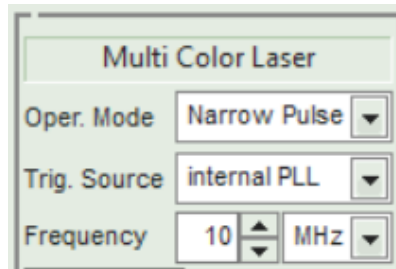

Figure 16: spin edit box "Frequency"
- Choose the option **internal PLL** to use the *PRIMA*'s internal clocks for triggering the picosecond and nanosecond pulses. Upon selecting this option, a spin edit box labeled **Frequency** appears, which allows setting the repetition rate from 1 kHz to 200 MHz or from 1 kHz to 100 MHz in case of ns pulses (see Fig. 16). The frequency unit (kHz or MHz) can be selected from the selection box next to it.